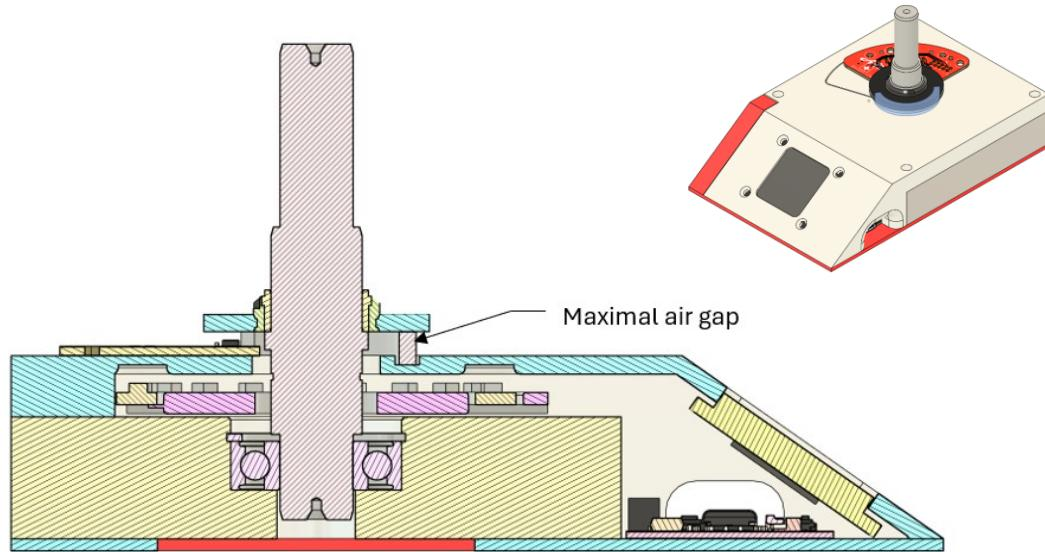

Figure 17: Maximal air gap: "Half-moon" distance holder below the magnet
- Turn off the power by moving the switch to the off-position (see figure 17).